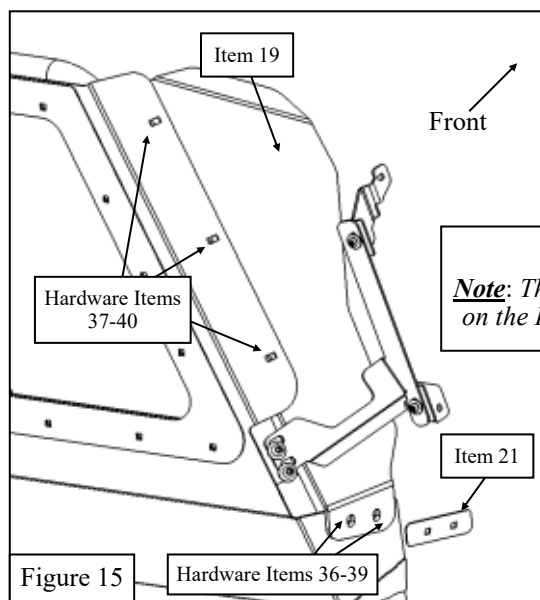

Figure 15
15. Loosen the Upper Bracket hardware if needed in order to install the driver and passenger Polycarbonate Windows (**Items 18-19**) with the supplied 1/4" hardware and Window Plates (**Items 20-21**). **Note:** Make sure the Polycarbonate Windows are aligned properly with the roof of the vehicle. See **Figure 15** for reference.